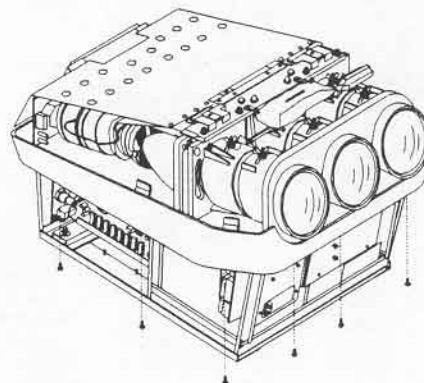

Figure 5-8. Lower Case Removal
- c) Remove the 12 screws which secure the lower case to the chassis as shown in Figure 5-8. Lower the case away from the projector.